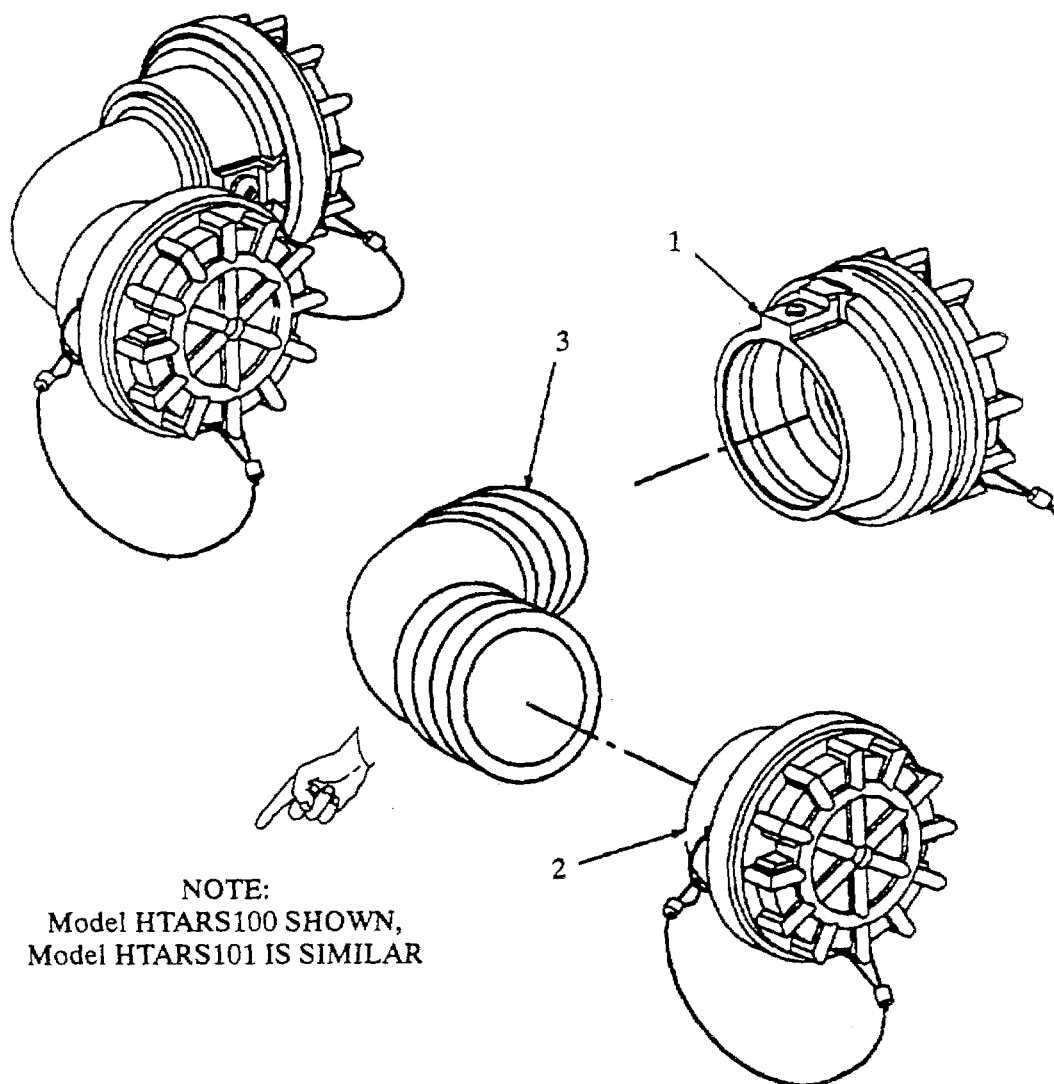

Figure 4-14. Elbow Assembly Repair.
a. Disassembly. Refer to figure 4-14.
(1) (Model HTARS100) Remove non-valved dry break couplings (1 and 2) from elbow body (3) (para 4-14).
(2) (Model HTARS101) Remove valved dry break couplings (1 and 2) from elbow body (3) (para
c. Inspection. Refer to figure 4-14.
(1) Inspect non-valved dry break coupling assemblies (1 and 2) for cracks, corrosion and damaged coupling bodies. Check sealing surfaces for scratches.
(2) Inspect elbow body (3) for cracks, splits, pitting, and corrosion.
d. Repair. Refer to figure 4-14.
(1) Replace damaged or defective elbow body (3).
(2) Repair non-valved dry break coupling assemblies (1 and 2) in accordance with para 4-14.
e. Assembly. Refer to figure 4-14.
- (1) (Model HTARS100) Install non-valved dry break coupling (1 and 2) on elbow body (3) (para 4-14).
- (2) (Model HTARS101) Install valved dry break couplings (1 and 2) on elbow body (3) (para 4-18).
- (3) Install elbow assembly in fuel system (para 3-4b).
- (4) Start up fuel system (para 2-12g) and check elbow assembly for leaks.